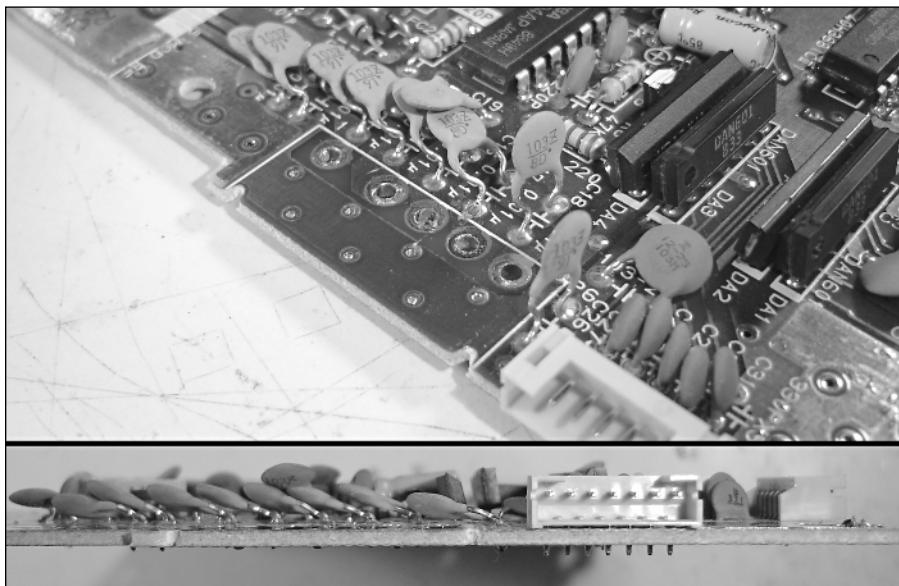

FIGURE 6-4: Bent and unbent capacitors. Also a view from the side!
6. Flip the board over to the parts side. See all those orange things that look like little frogs all over the board? Those are capacitors, and you can carefully bend them over to make everything thinner (Figure 6-4). Tilt them over with your fingers—try to keep their leads from touching any other metal, however. Looking at the board from the side, nothing should be much higher than the white controller connectors.